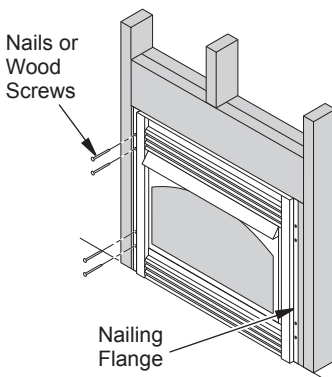

Figure 10 - Attaching Firebox to Wall Studs
- Attach firebox to wall studs using nails or wood screws through holes in nailing flange (see Figure 10).